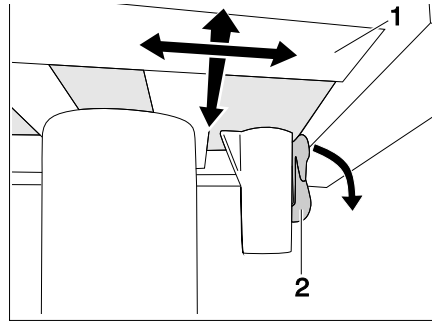

Fig. 103 Lock single-column table (locked)
- Push the locking lever (Fig. 103,2) down.
- Move the table-top (Fig. 103,1) to the desired position.
- Press the locking lever (Fig. 103,2) back upwards.